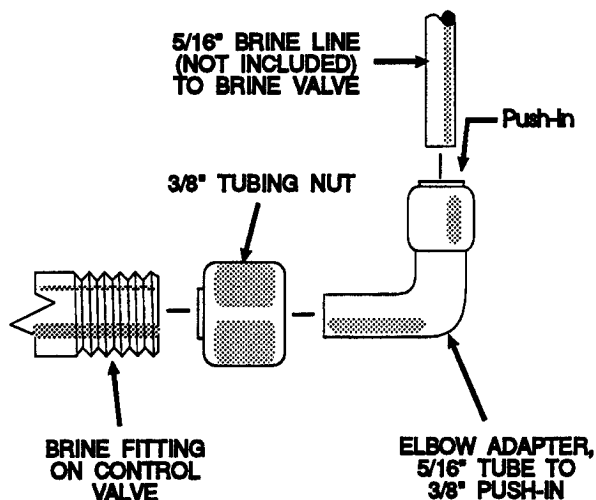

Fig. 5
- Assemble the brine tubing to the control valve as shown in Fig. 5. Make sure the tubing end is cut cleanly at a right angle. Push it into the elbow adapter until it bottoms.